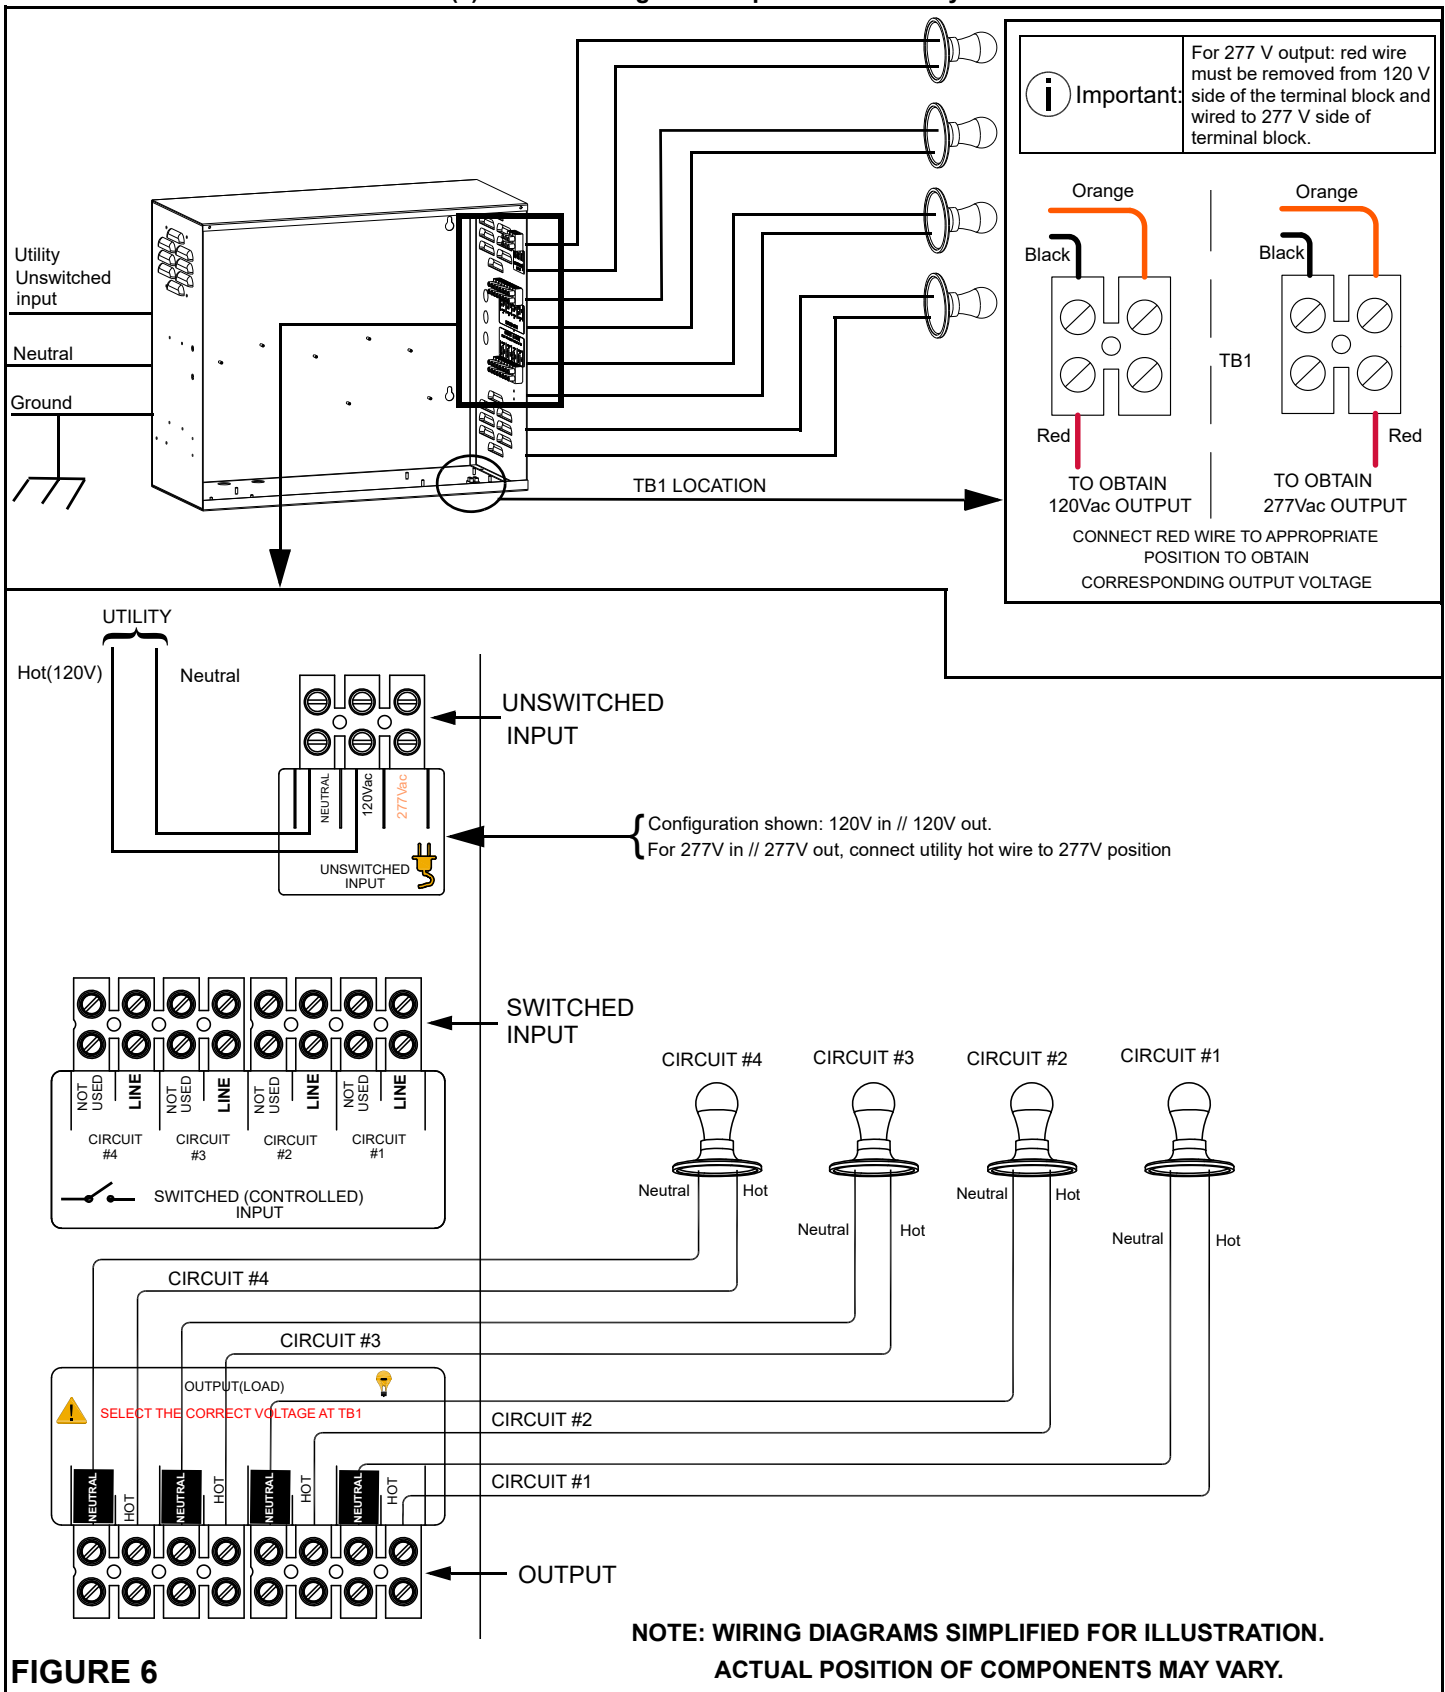

FIGURE 6
- Normally-Off Operation** (Refer to Figure 6 for wiring details) - Fixtures illuminated only upon loss of utility AC power.